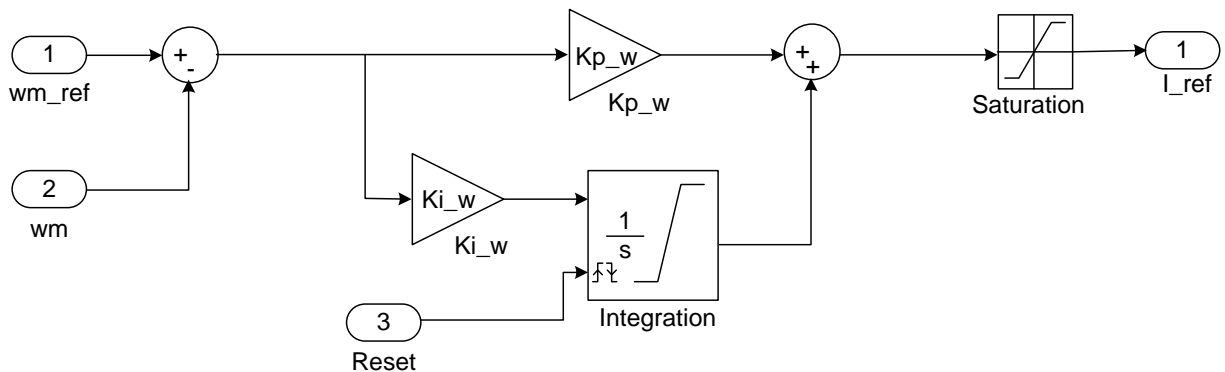

Figure 5.6: Speed Controller
- b) Modify the Speed Control block as shown in Fig. 5.6. Change the integrator block parameters by double clicking on it and changing its external reset to either. Open the Current Controller and change its integrator’s reset as was done in the Speed Control. Connect the reset inputs of speed controller and current controller as shown in Fig. 5.6. These changes allow the integrators to start up correctly in the real-time environment.